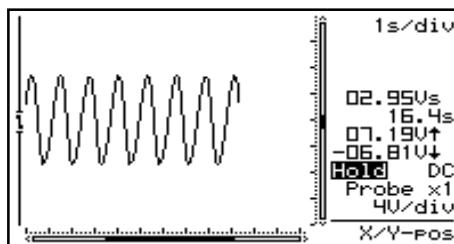

Fig 29
- At 1s/div timebase or slower, the readouts are forced to the instant information. ‘Vs’ (Fig. 29) .